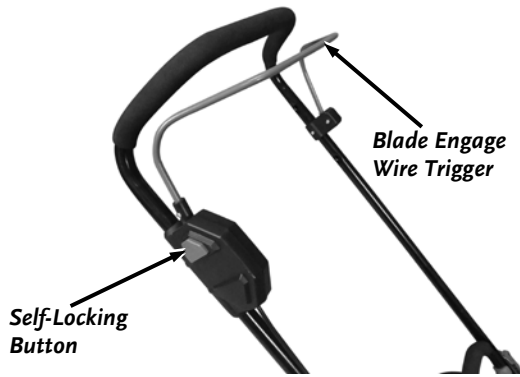

Figure 17
1. Hold the Self-Locking Button down with one hand as you pull the Blade Engage Wire Trigger to the Handlebar with the other hand (**Figure 17**).
1. Release the Blade Engage Wire Trigger to stop the Motor/Blade (**Figure 17**).